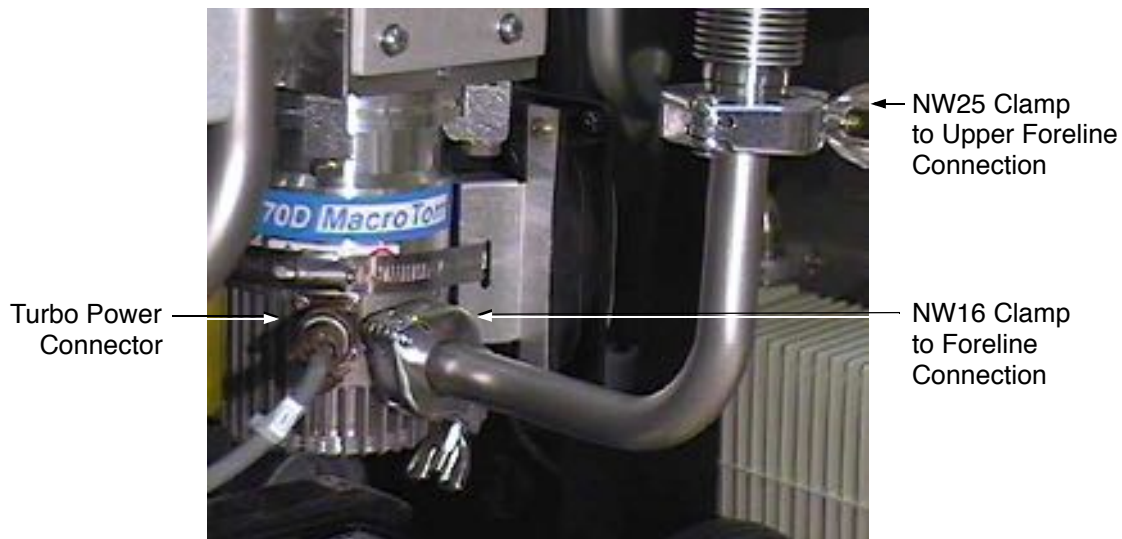

Figure B-7 Turbo Power and Foreline to Turbo Connections
3. Disconnect the power from the turbo pump by pushing the green sleeve on the end of the connector in and then turning the sleeve to release the connector (Figure B-7).
6. Loosen the wing nut and remove the NW25 clamp that connects the foreline to the turbo (Figure B-7 on page B-10).
- ☐ Loosen and remove the NW25 clamp to the upper foreline connection (Figure B-7 on page B-10).
5. If the foreline was removed from the upper foreline connection (Figure B-7 on page B-10), do the following: